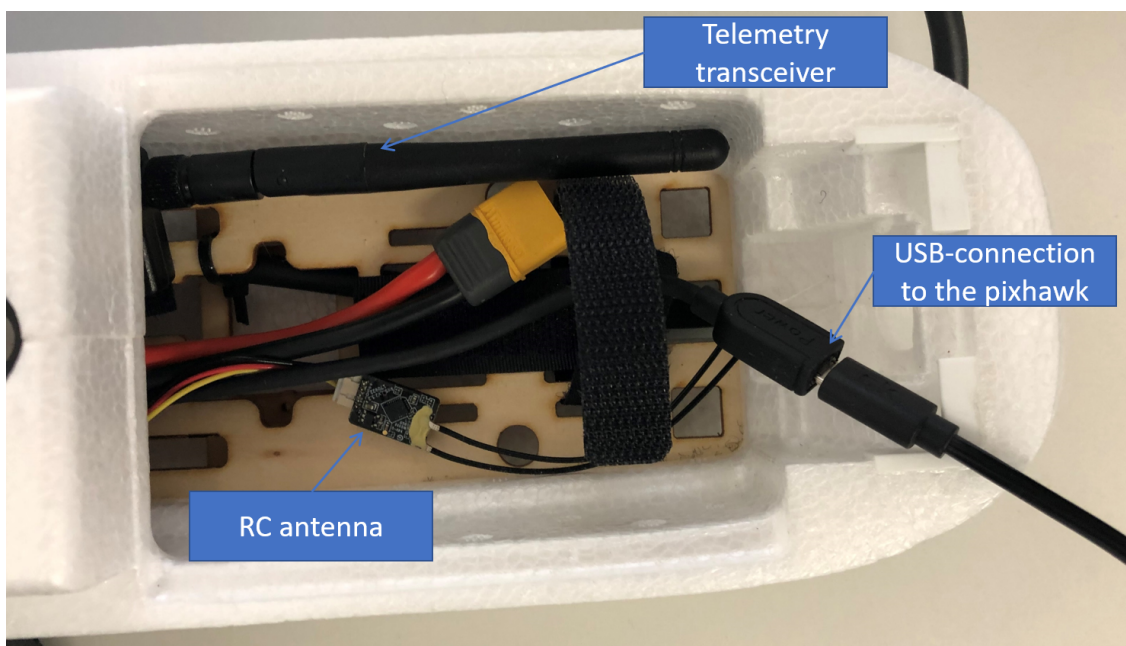

Figure 3: Pixhawk Connection to Host computer.
2. Use a micro USB cable to connect the Pixhawk to the host computer. The micro USB interface is found in the head of the aircraft (see Fig. 3).
4. Establish the connection between remote control and the Pixhawk. To do so, turn on the remote control by pressing the Power button until the start screen appears. If a warning appears, press the right button to continue. Now, select the pre-configured UAXS HiL model as the operating model. This is done through pressing the left central button and selecting the desired model with the right wheel. Figure 7 shows the selection menu as well as the remote control. After the selection, the model name has to be marked. Now, press the right button and choose Select model in the opening menu. Then press the Exit button two times. Now, the model name (UAXS HiL) and the battery status should be displayed on the screen. To check the connection on the Pixhawk side, verify that the LED of the RC antenna lights up. This LED lays inside the head of the aircraft and is shown also in Fig. 3. The remote control is now interacting with the Pixhawk.